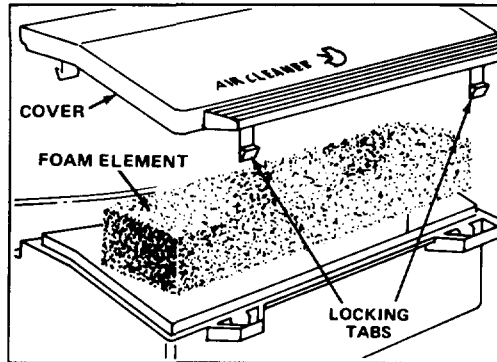

Figure 17
2. Push in locking tabs and lift off air cleaner cover. Clean cover thoroughly (Fig. 17).
3. If top of foam element is dirty, remove it from air cleaner body (Fig. 17). Clean thoroughly.